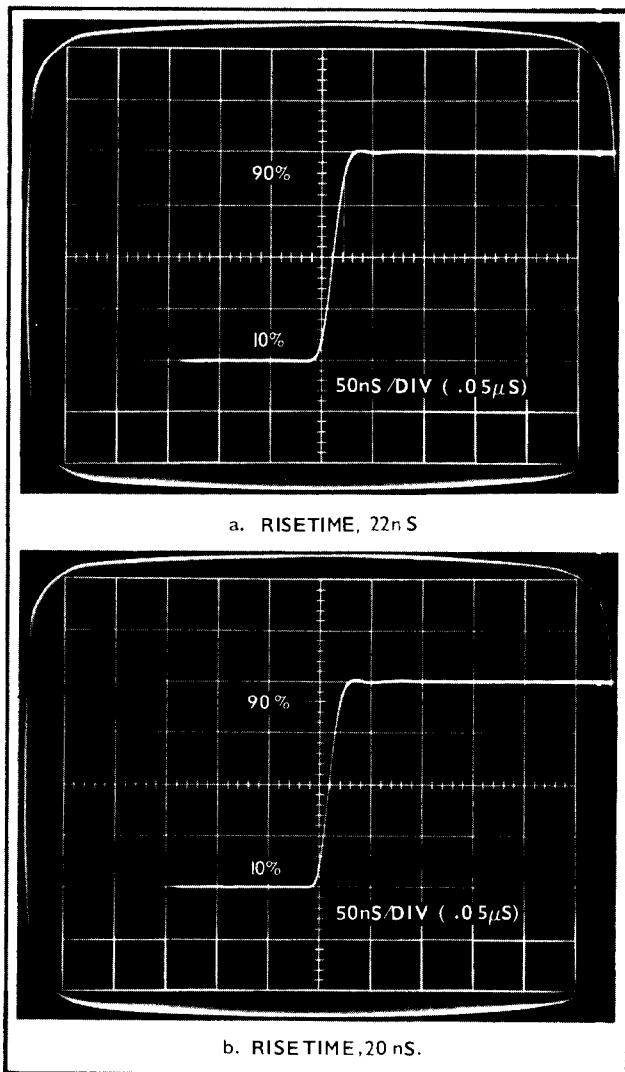

Fig. 5-10. Difference in risetime measurement using Type 105 (A) and Type 106 FAST RISE (B).
b. Increase the sweep rate to at least 0.05 μ sec/div (50 nsec/div) and obtain stable triggering on the rising slope of the signal. The display should be similar to Fig. 5-10. Measure the risetime between the 10% and 90% points as shown in Fig. 5-10.